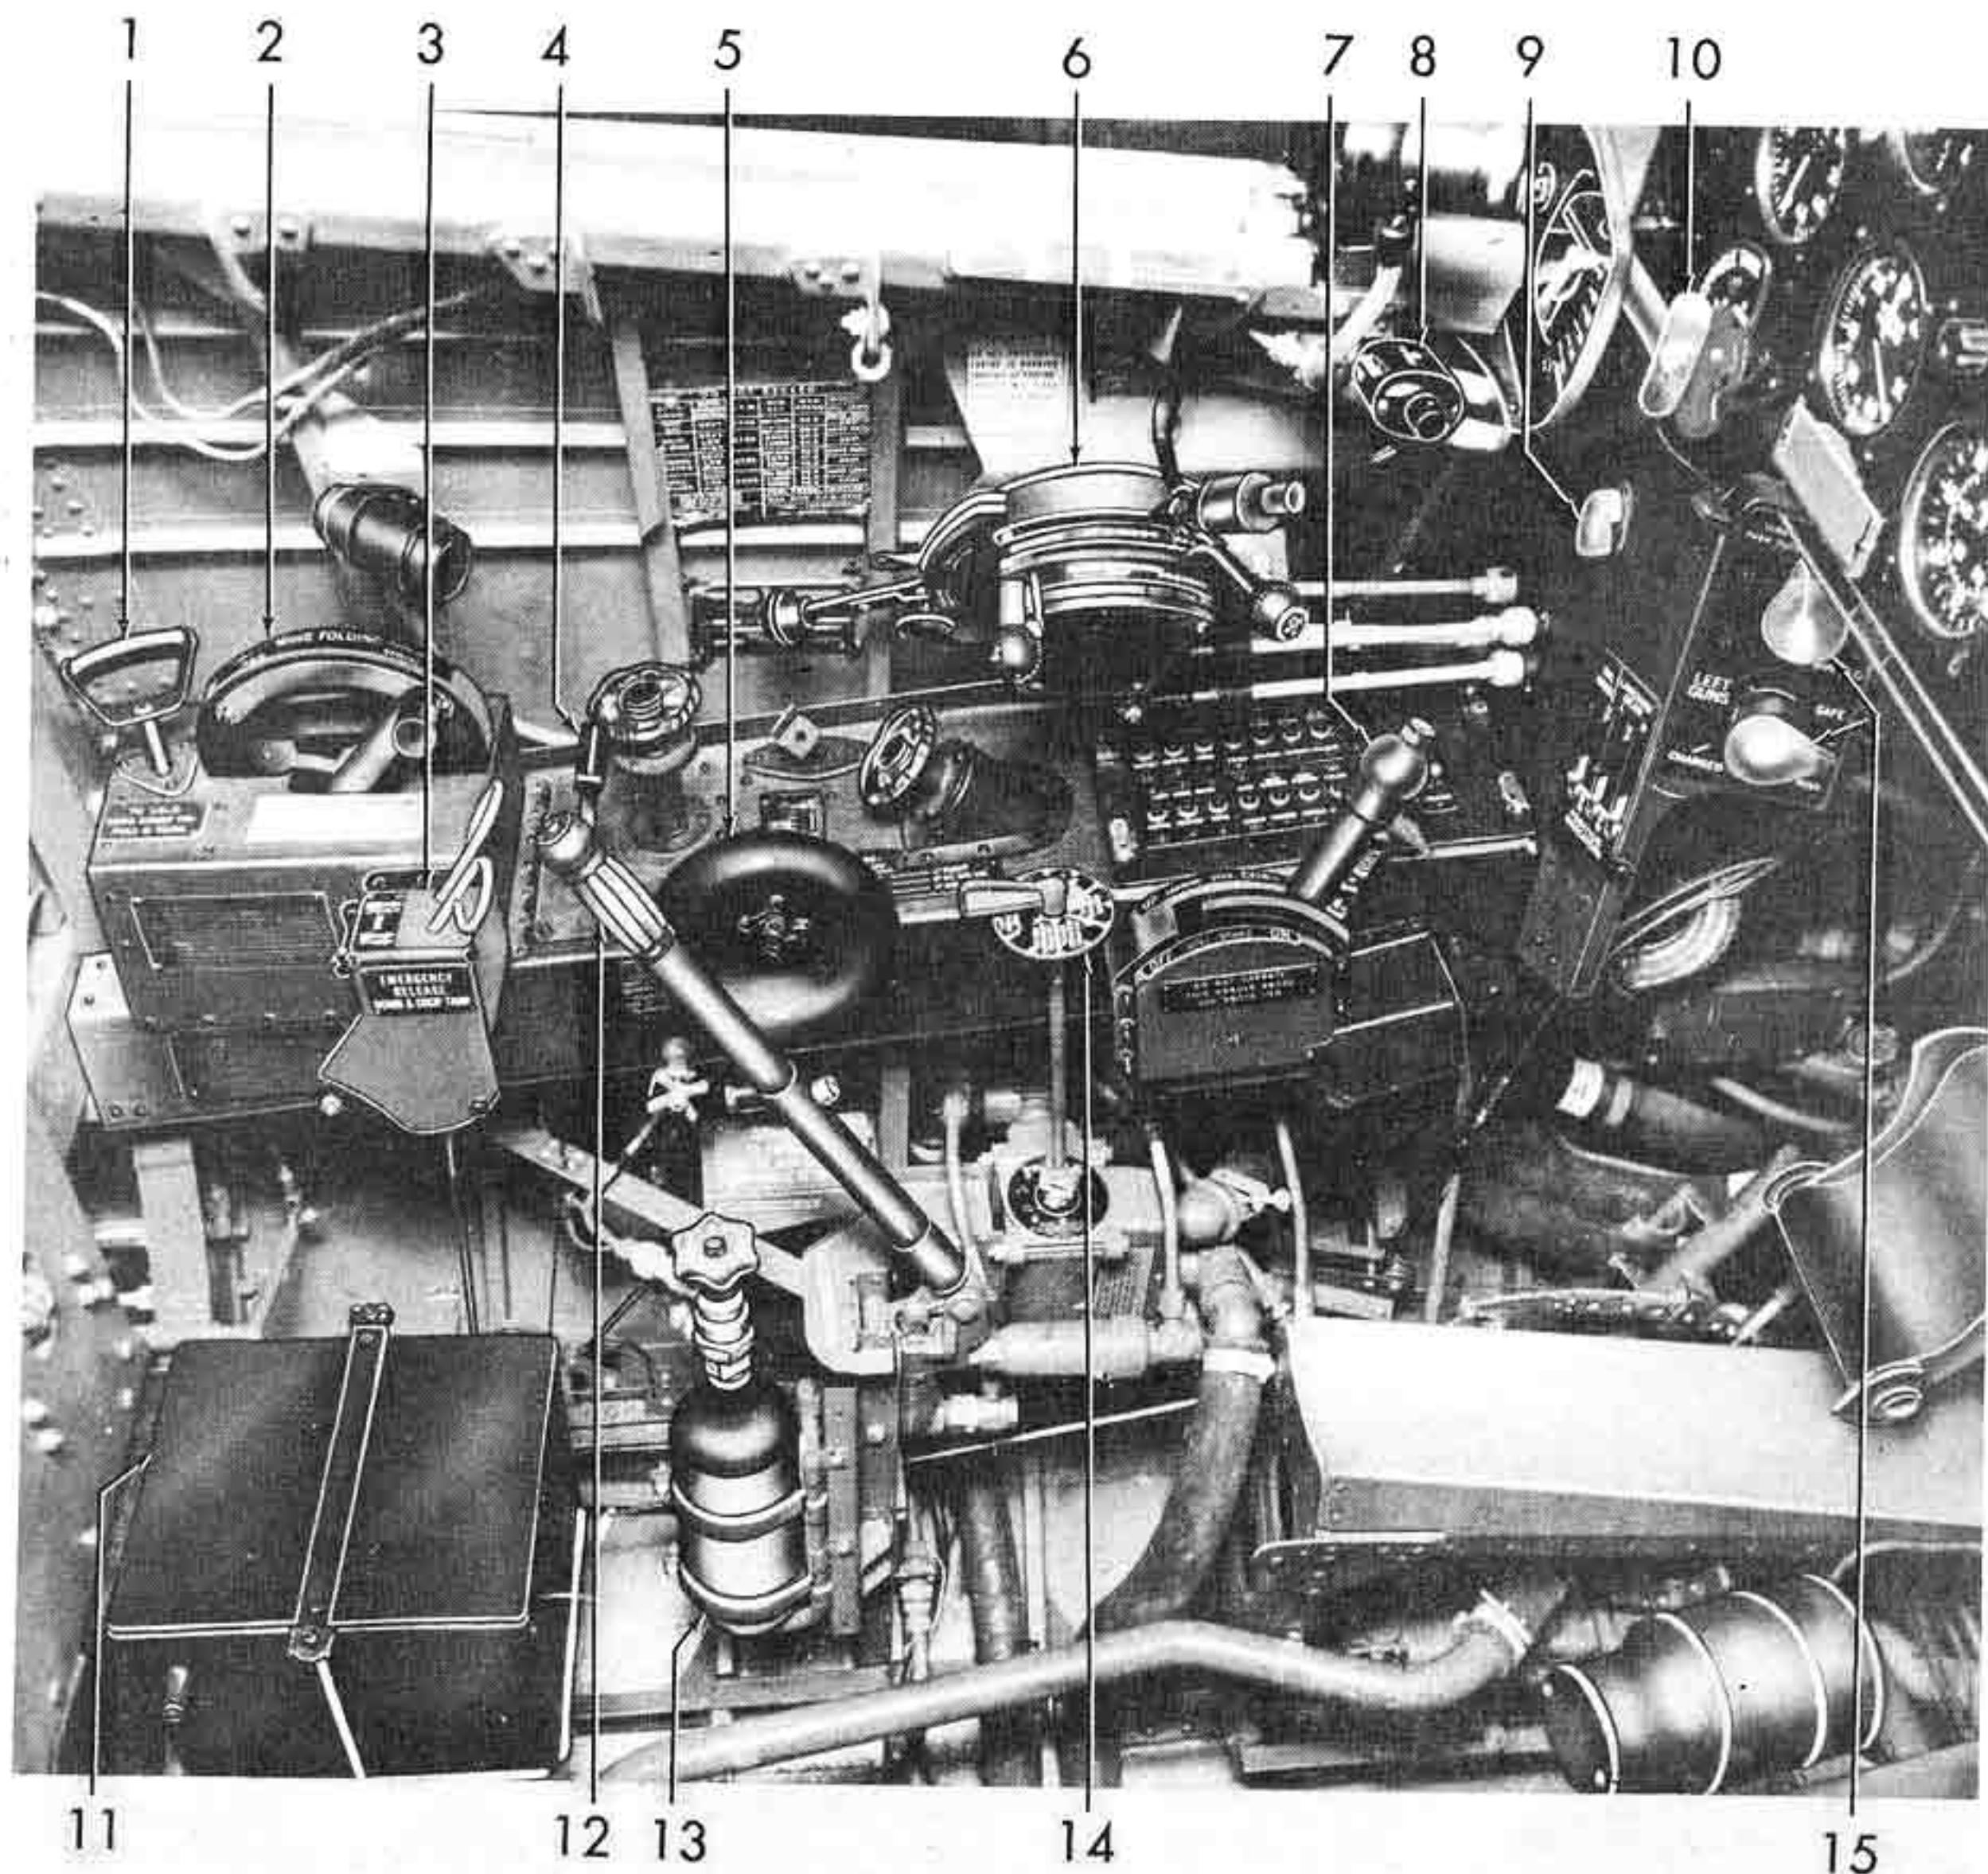

Figure 3—Cockpit—Left Side
b. POWER PLANT CONTROLS.—The throttle, mixture, propeller governor, and supercharger controls are mounted in a control unit and installed on the left side of the cockpit as shown in figure 3. Each control moves through a quadrant in operation. For ease of handling, the engine control unit is plainly marked with the name and correct positioning of the controls mounted thereon.
(1) THROTTLE CONTROL.—The throttle control is located on the engine control unit on the left hand side of the cockpit.
(2) WATER INJECTION MICRO SWITCH.—In addition to its normal function, the throttle control operates the water injection micro switch. Moving the throttle control full forward (breaking the safety-wire stop) closes the micro switch and turns the water injection equipment on. When the throttle control is in any other position, the water injection equipment is off. Refer to Section II, paragraphs 4.b.(8) and 14.d. for information concerning the water injection system and its operation.
(3) MIXTURE CONTROL. — This engine is equipped with a PT-13D4 (PT-13D6 on airplanes with water injection system) Bendix-Stromberg injection carburetor with automatic mixture control.